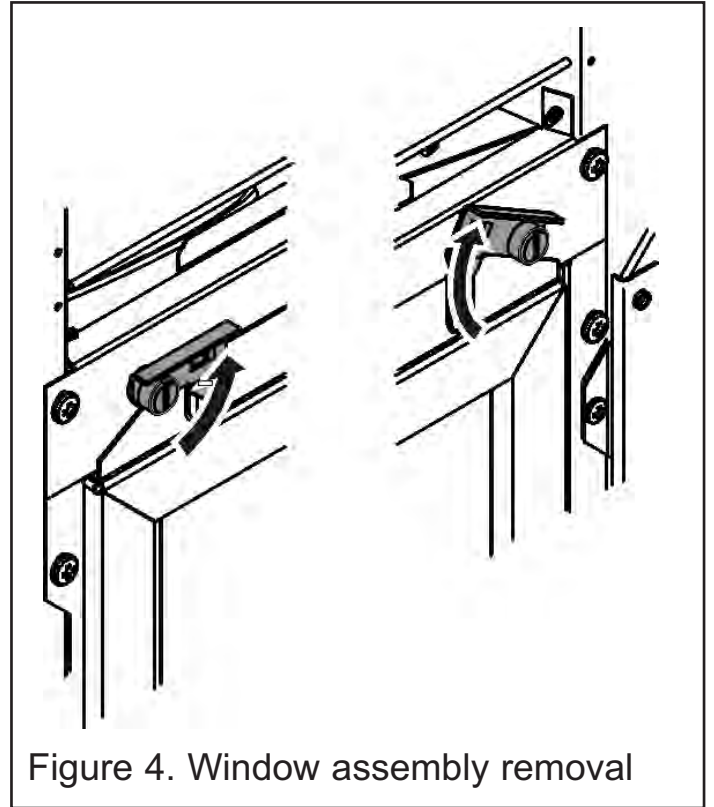
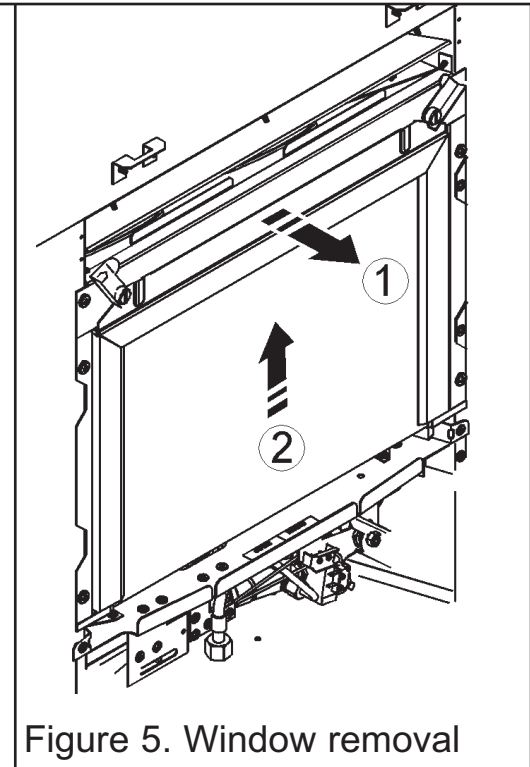

Figure 4. Window assembly removal
Figure 5. Window removal
1. The window assembly is held in place with two clamping brackets that rotate around a central pivot point. Push the brackets up and clear of the window assembly (See figure 4). Gently pull the top of the window frame forward and lift the window assembly clear of its support channels (See figure 5). Place the window assembly in a safe place away from the work area.